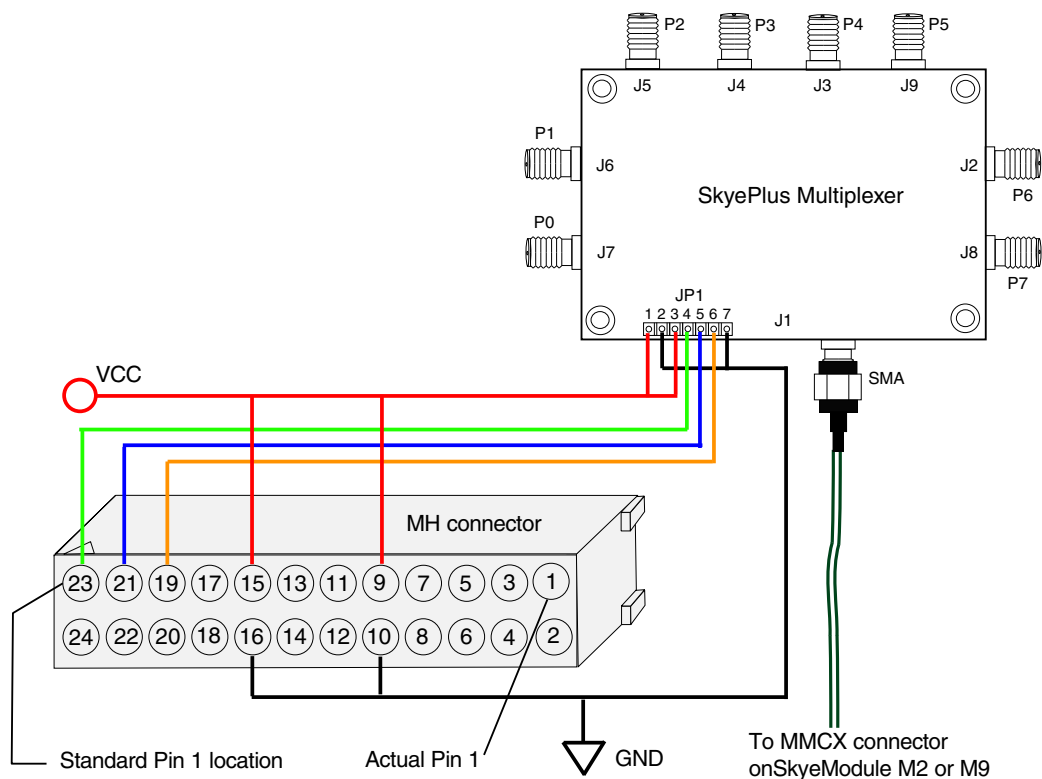

Figure 3-2 Custom MXU Connection Through MH-style Connector
- Figure 3-2 illustrates the pin and antenna connections.